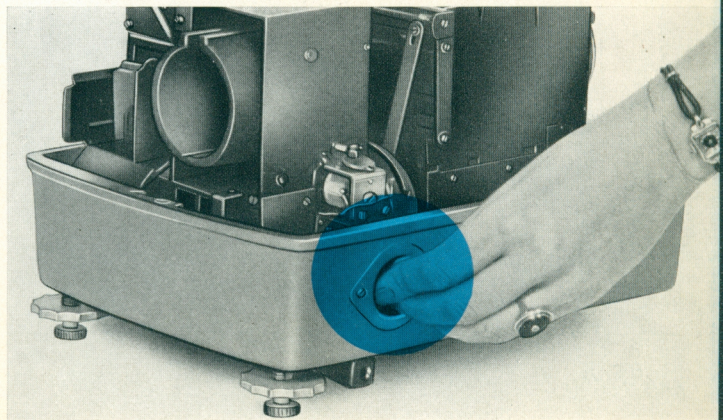

fig. 20
Badly-mounted slides and those which are not of standard size may easily cause jamming of the slide transport mechanism. In this event, the projector should be switched off immediately and the connecting cable removed from the mains socket. By lifting the top of the projector housing, you will be able to reach the jammed slide, which should be guided back into the magazine whilst turning the milled motor shaft (15) (fig. 20).